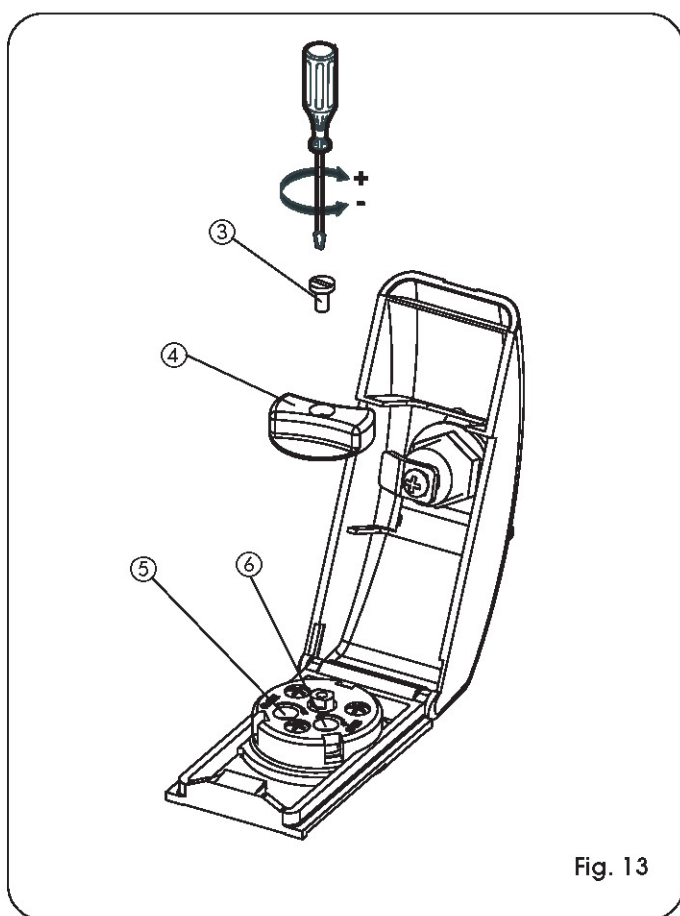

Fig. 13
- Turn the key 90° clockwise to open the cover.
- Lift up the cover (Fig. 13).
- Back off the screw (Fig. 13, ref. ③) which secures the knob, and withdraw the knob (Fig. 13, ref. ④).
- Turn the force adjustment screws (By-Pass) (Fig. 13, ref. ⑤ and ⑥) on the operator.
- When you have finished adjusting, re-position the knob (Fig. 13, ref. ④) and fasten the screw (Fig. 13, ref. ③).